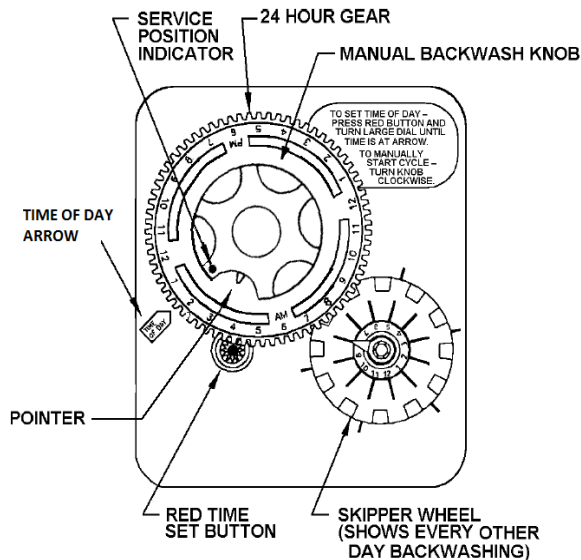
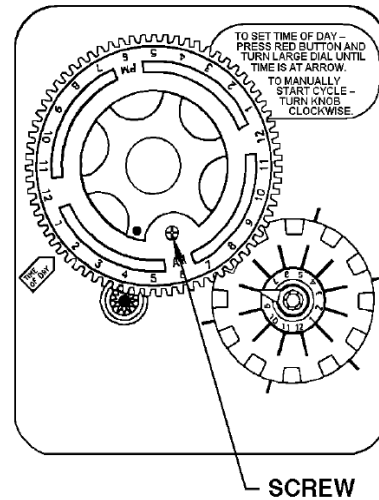

FIGURE 4a: Timer in Service Position
FIGURE 4b: Adjusting Time of Regeneration
- Be sure the control valve is in the "Service" position. For the OXY3 models the service indicator should point to the time of day arrow (See figure 4a, page 7).
- STEP 12:** Set the Timer Control (Figure 4a) by rotating the Skipper Wheel (Figure 4a) so the red pointer is directly over day 1. Select the days when backwashing will occur by sliding the metal tabs in or out. IN indicates no backwashing will occur on that day, OUT indicates that backwashing will occur on that day. **Factory setting is to initiate backwash every third day.**
For the OXY3 turn the manual backwash knob (figure 4a) clockwise until the drive gear engages the program wheel and water begins flowing to drain. Immediately unplug the control valve from the power outlet and leave the unit in backwash until the drain water runs clear. Then plug the control valve back into the power outlet and allow the regeneration cycles to complete automatically before continuing to step 14.
STEP 14: Set the current time of day. For the OXY3 start by depressing the red Time Set Button (Figure 4a) and turning the 24 Hour Gear (Figure 4a) to the desired time (note AM and PM).
- b) Locate three screws (Figure 4b) behind the Manual Backwash Knob (Figure 4a) by pushing the red Time Set Button (Figure 4a) and rotating the 24 Hour Gear (Figure 4a) until each screw appears in the cut out portion of the Manual Backwash Knob.
- d) Continue depressing the red Time Set Button and rotate the 24 Hour Gear to expose the Regeneration Time Pointer (Figure 4a) in the cut out portion of the Manual Backwash Knob. Keep the Regeneration Time Pointer visible in the cut out while rotating only the time plate until the desired time of regeneration (note AM and PM) is aligned with the Regeneration Time Pointer. **NOTE: subtract 136 minutes from the desired time for the start of backwash to determine where the Regeneration Timer Pointer should point.**